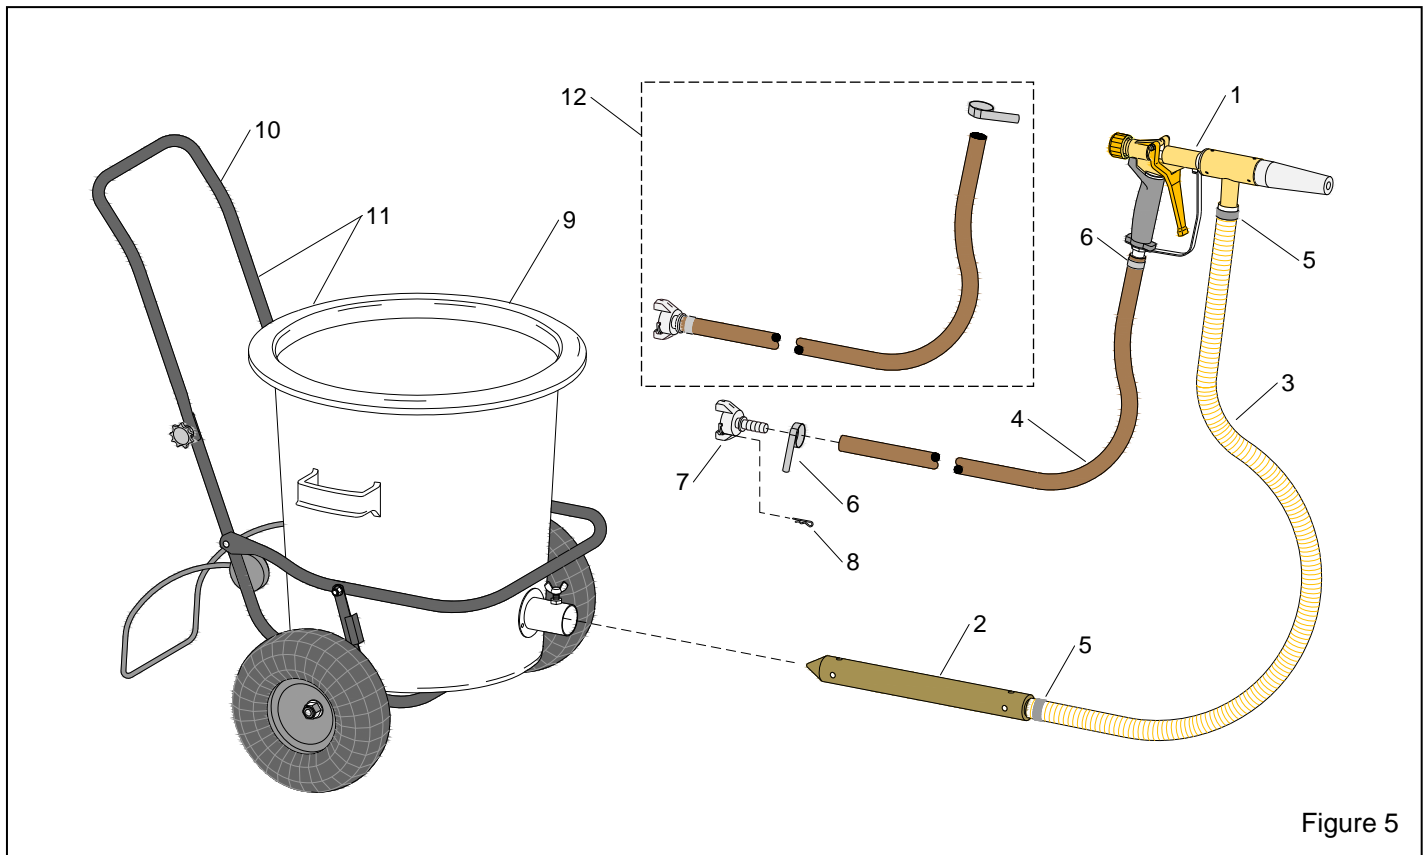

Figure 5
8.1 Assembly Replacement Parts, Figure 5